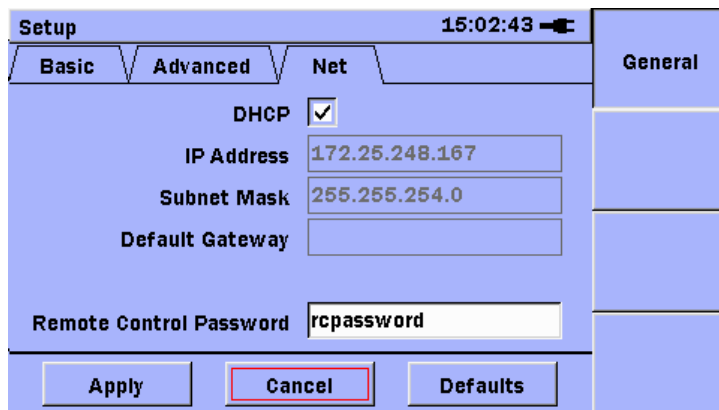

Figure B.1-4 Net Tab (DHCP Assigned IP Address)
11. If the DHCP request was successful, the assigned IP address and subnet mask will be shown on the Net tab, as shown in Figure B.1-4.